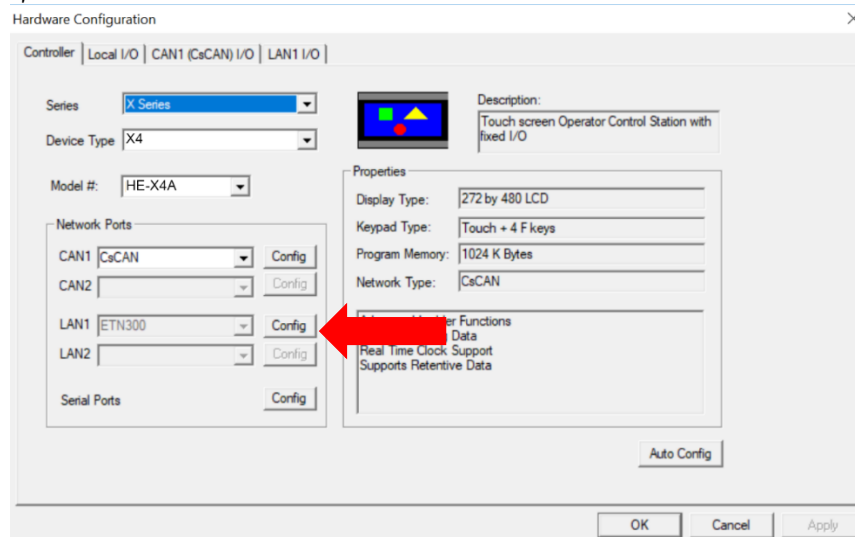

Figure 12.1 - Hardware Configuration Screenshot
1. On the main Cscape screen, select the **Controller** menu and its **Hardware Configuration** sub-menu to open the Hardware Configuration dialog (Figure 12.1).